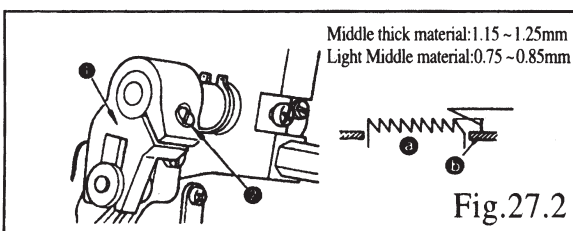

Fig.27.2
① Feed ② Throat plate
①Loosen screw ②of crank ①
②Move the feed bar up or down to make adjustment.
③Securely tighten screw ②.
22.2.HEIGHT OF THE FEED DOG (FIG.27.2)(STRAIGHT EDGE)